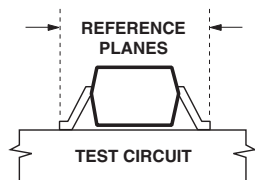

Figure 11. Reference Planes.
1. Reference plane per Figure 11 in Applications Information section.
The positions of the reference planes used to measure S-Parameters and to specify  $\Gamma_{opt}$  for the Noise Parameters are shown in Figure 11. As seen in the illustration, the reference planes are located at the extremities of the package leads.